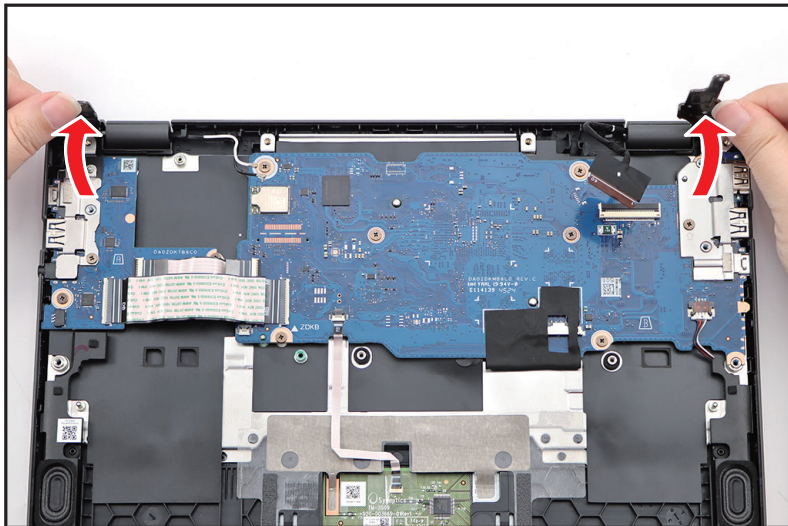

Figure 3-21. LCD Module Removal
4. By holding the LCD hinges, lift to open the top assembly (Figure 3-21).